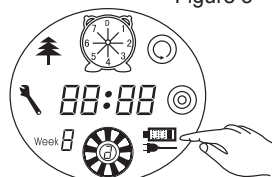
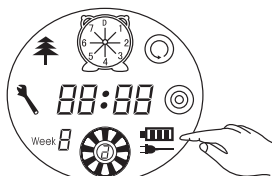

Figure 4
Figure 5
6. After the battery is empty, when charging the first grid of the charging icon will flicker, then the second and then the third grid will flicker showing it is charging, it will stop flickering when fully charged. (Refer to Figure 4 and Figure 5)